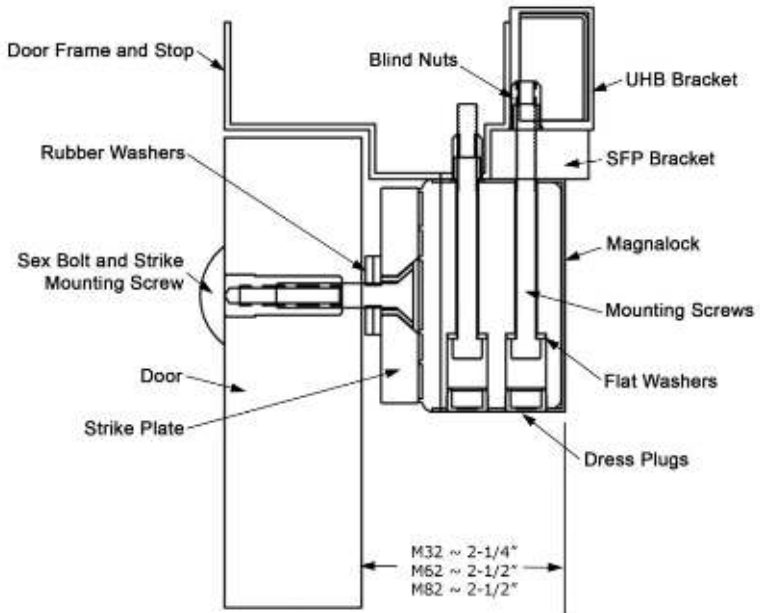
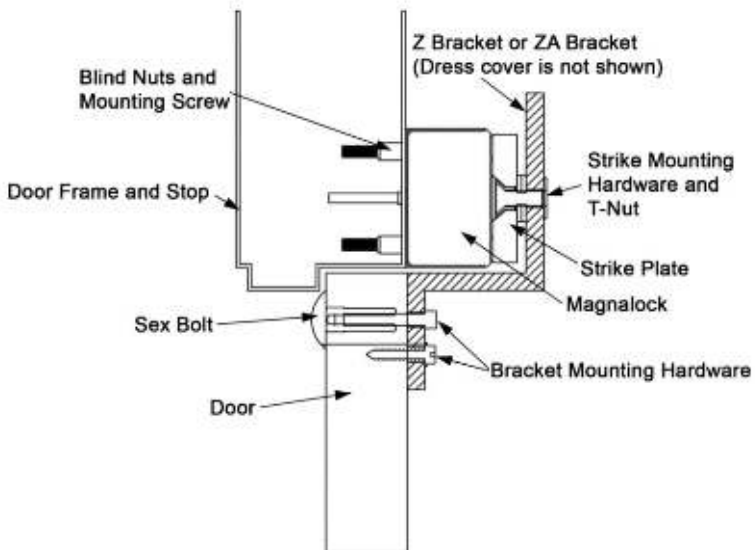

Figure 2. Magnalock Installation on an Out-Swinging Door
Figure 3. Magnalock Installation on an In-Swinging Door
**NOTE 2:** Figure 2, "Magnalock Installation on an Out-Swinging Door," and Figure 3, "Magnalock Installation on an In-Swinging Door," illustrate the typical mounting methods.